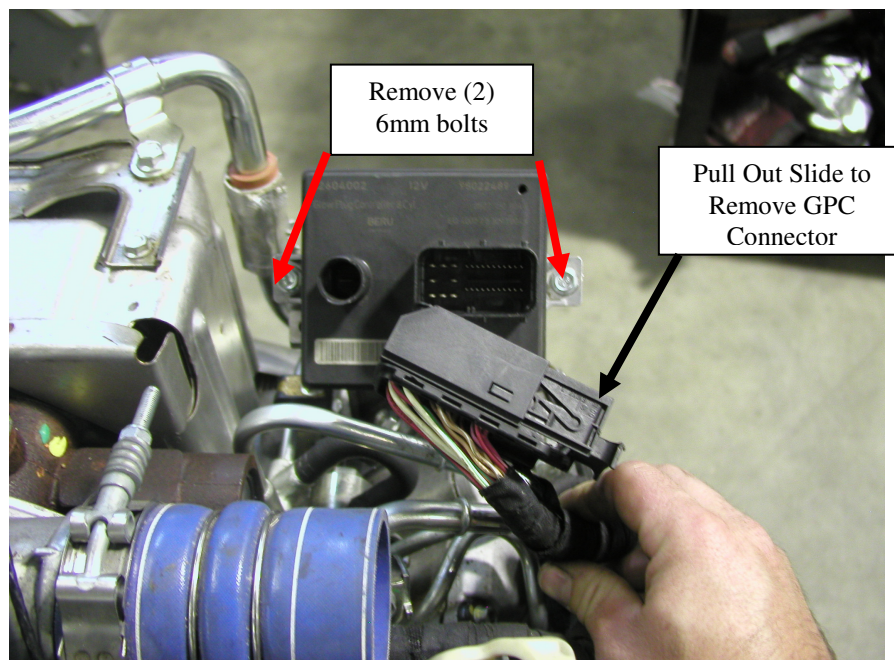

Figure 3: GPC Location and Connector
7. Find the glow plug controller (GPC) located towards the rear of the driver's side of the engine, Figure 3. Disconnect the two connectors. Using a 10mm socket, remove two 6mm bolts that hold the GPC to the bracket. Remove the GPC.